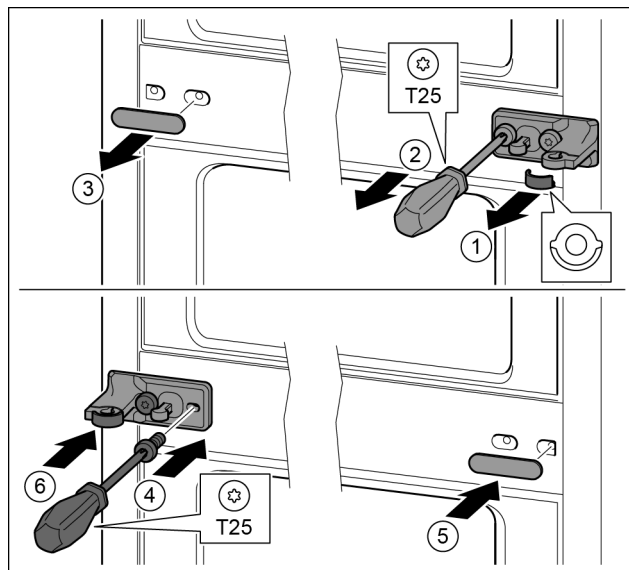

Fig. 14
- Remove the washer. Fig. 14 (1)
- Remove the screws with the T25 screwdriver. Fig. 14 (2)
- Remove the cover carefully. Fig. 14 (3)
- Screw the bearing bracket and the film rotated 180° firmly onto the other side. Fig. 14 (4)
- Attach the cover rotated 180° onto the other side. Fig. 14 (5)
- Push the washer in from the front. Fig. 14 (6)